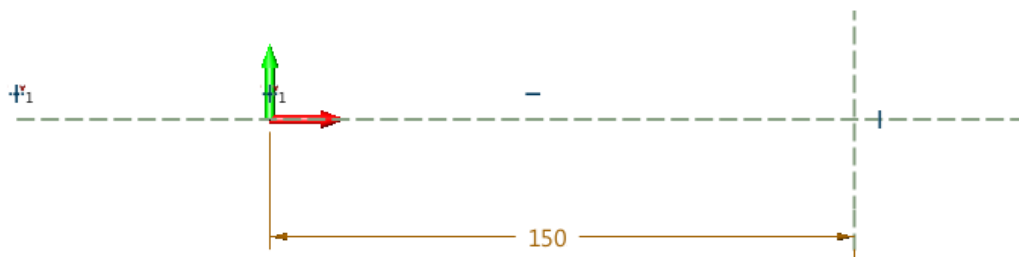

Figure 100 Construction Geometry
**STEP 03** Draw a vertical construction line and set the distance between the line and the origin as 150 (mm), as shown in Figure 100.